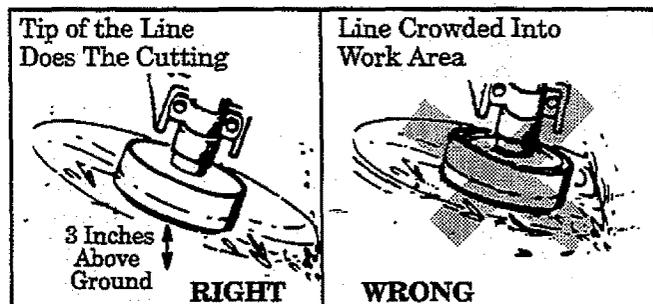

Figure 11
- The tip of the line does the cutting. You will achieve the best performance and minimum line wear by not crowding the line into the cutting area. The right and wrong ways are shown in Figure 11.